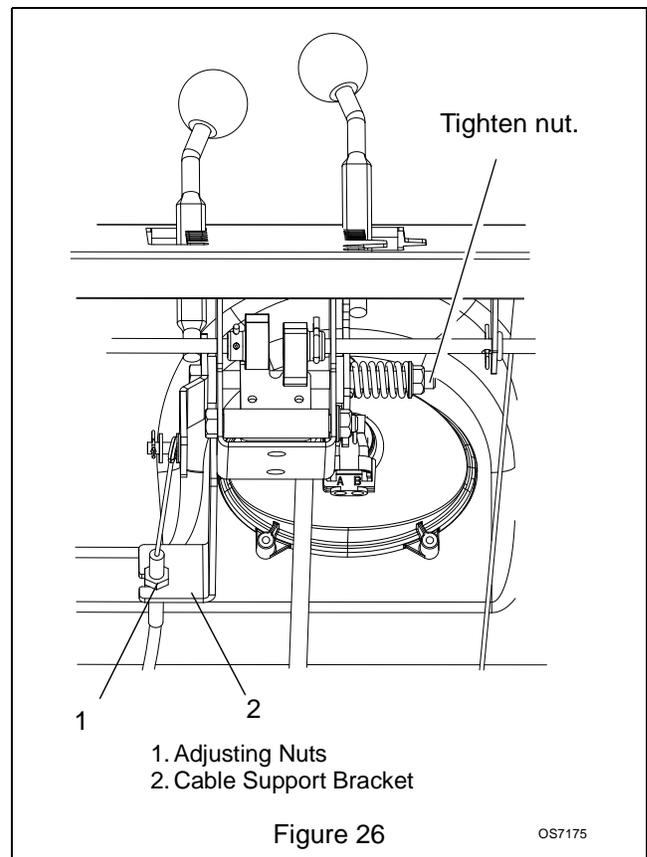

Figure 26
- Tighten nut beneath control panel to increase pressure on deflector control (Figure 26).
- Loosen adjusting nuts on cable support bracket underneath the dash panel (Figure 26).